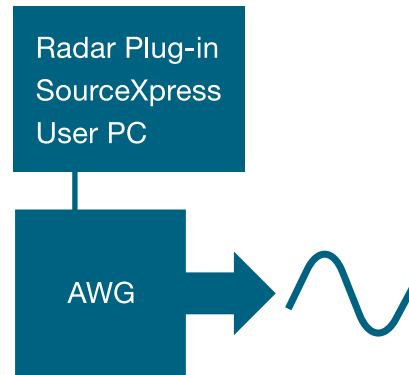

Figure 4: Connected remote use model.
3. Use SourceXpress installed on a user PC connected to the AWG (see Figure 4 - Connected remote use model)